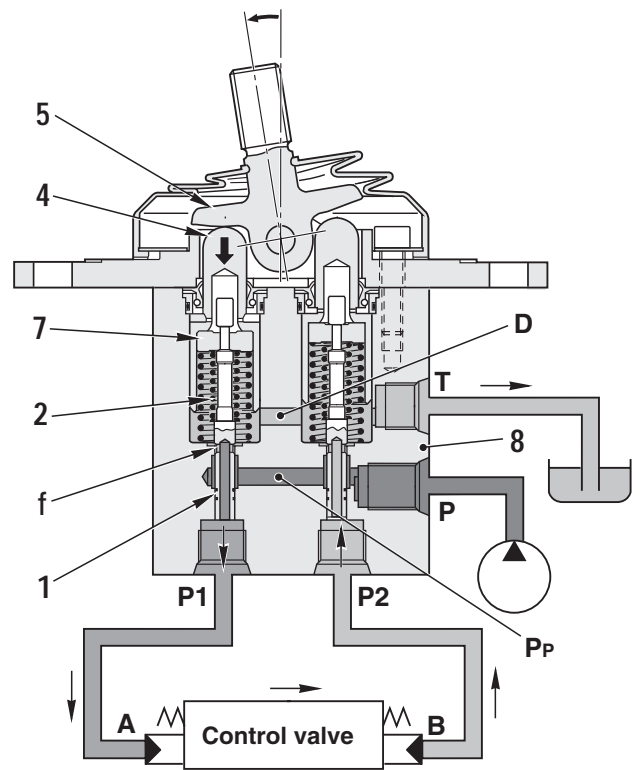

Fig. 2
Therefore, metering spring (2) is compressed proportionally to the amount of movement of the control lever, so the pressure at port **P1** also rises in proportion to the travel of the control lever. In this way, the control valve spool moves to a position where the pressure in chamber **A** (the same as pressure at port **P1**) and the force of the control valve spool return spring are balanced. (Fig. 2)